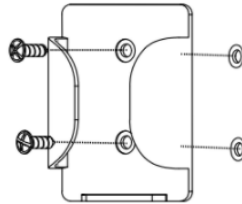

Fig. 12.2
2. Slide the remote into the holder to rest the remote. (Fig. 12.2)